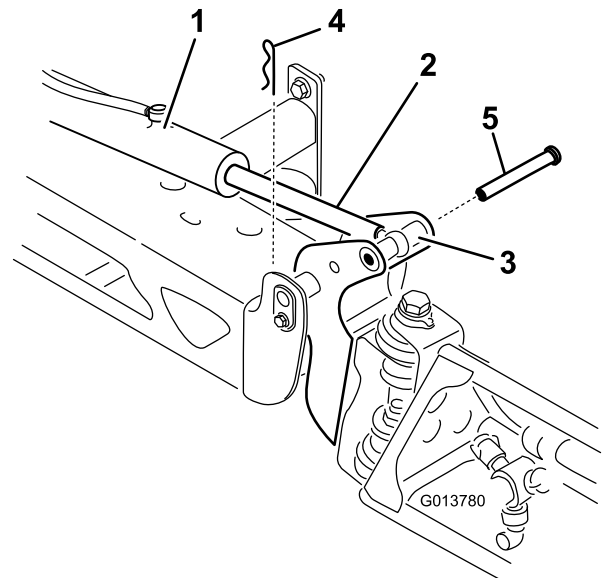

Figure 64
2. Remove the cotter pin from the pivot pin (Figure 64).
3. Lift up on the boom and remove the pin (Figure 64). Slowly lower the boom to the ground.
8. Raise the boom to align the pivot with the actuator rod. While holding the boom, insert the pin through both boom pivot and actuator rod (Figure 64).